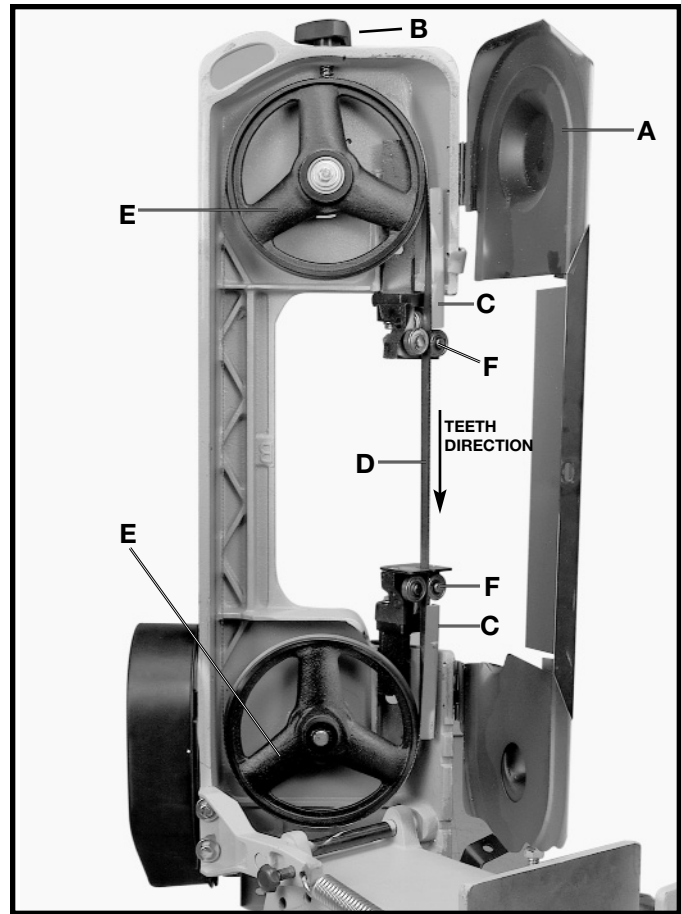

Fig. 36
1. Raise the saw arm to the vertical position and open the blade wheel cover (A) as shown in Fig. 36.
2. Release blade tension by turning blade tension hand knob (B).
3. Remove the two finger guards (C).
4. Carefully slip blade (D) off both wheels (E), and guide assemblies (F).